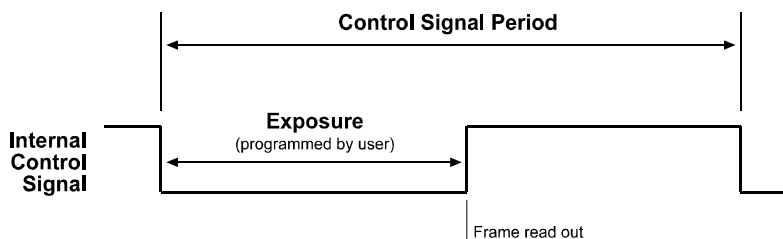

Figure 4-6: Free-run Programmable Mode
- In **free-run programmable mode**, the camera generates a continuous internal control signal based on two programmable parameters: "Exposure Time" and "Frame Period". The Exposure Time setting determines how long the internal control signal will remain low. Pixels are exposed and charge is accumulated when the internal control signal is low. The Frame Period setting determines the control signal period. The frame is read out and transferred on the rising edge of the internal control signal (see Figure 4-6).
An exposure time calculated by the camera will determine how long the internal control signal will remain low. Pixels are exposed and charge is accumulated when the internal control signal is low. The frame is read out and transferred on the rising edge of the internal control signal (see Figure 4-6). The Frame Period setting determines the control signal period.